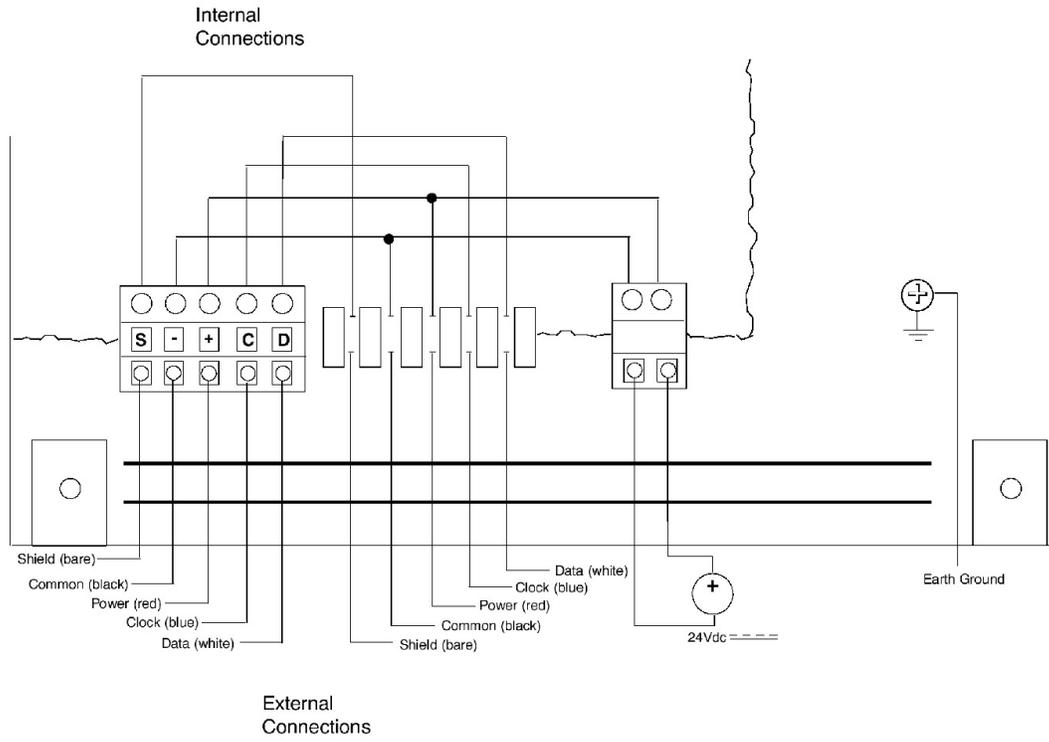

Figure 2. Wiring Diagram
5. See Figure 2. *Wiring Diagram* on page 9. Connect a SERIPLEX bus cable to one or both of the SERIPLEX wiring connectors on the front of the interface base unit, as directed by the diagram and label on the unit. Inside the base unit, like conductors (power and power, shield and shield, data and data, etc.) are connected to each other (a parallel connection).